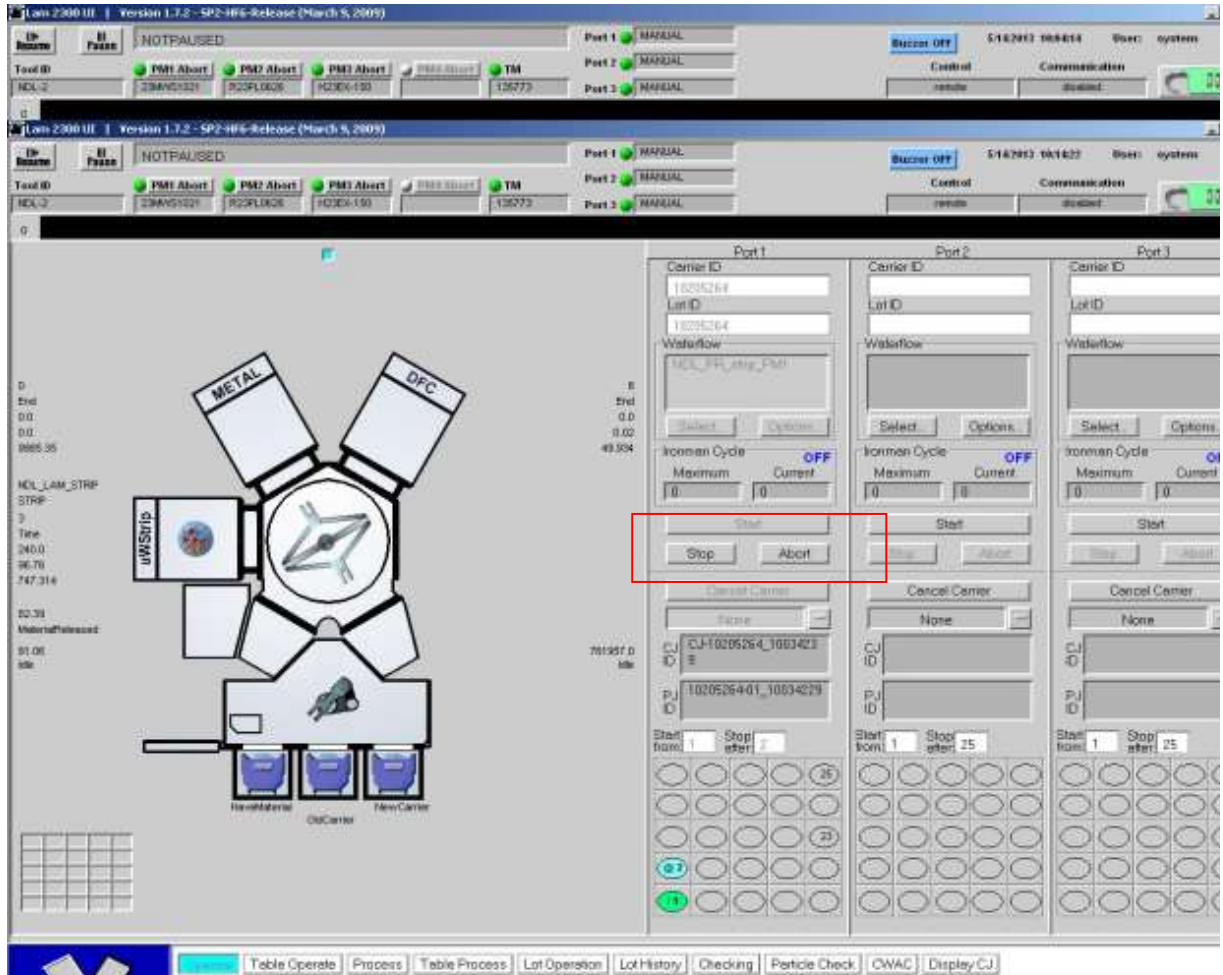

Fig.4: Abort and stop page
5. If chose wrong recipe, press " Abort 或 Stop" (fig.4).